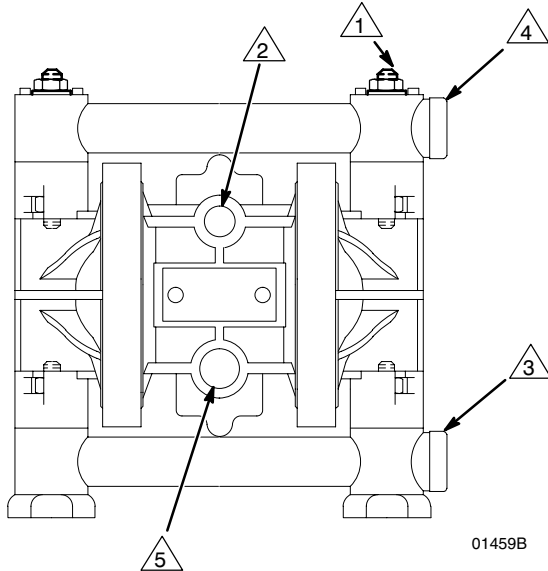
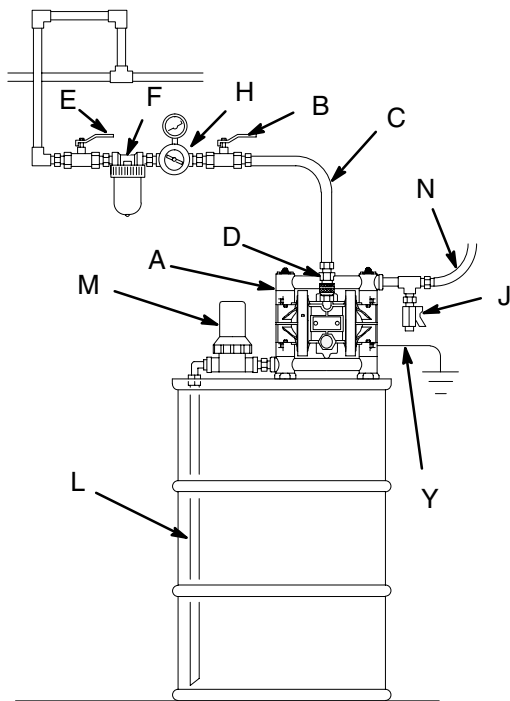
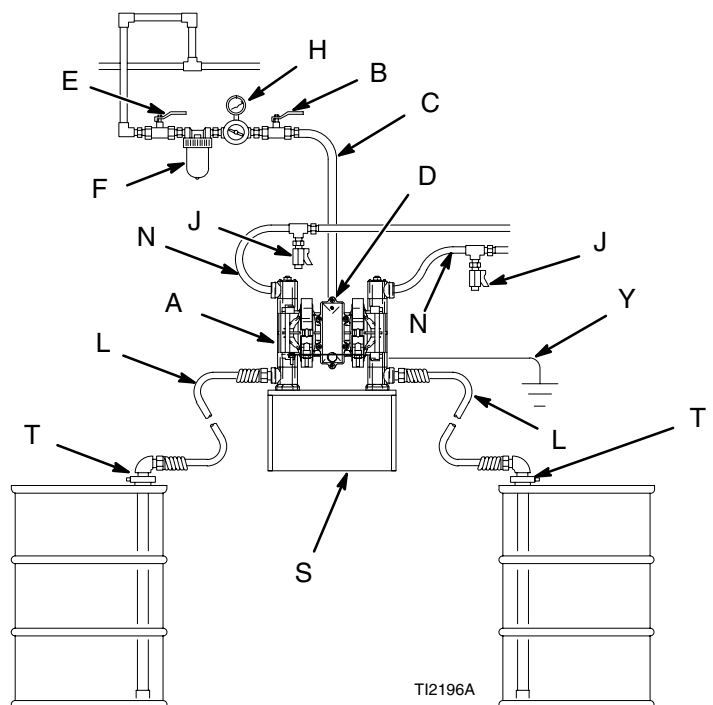

Fig. 2
Fig. 5
Fig. 7
- The pump can be used in a variety of installations, some of which are shown in Fig. 5 to Fig. 7.
When pumping conductive flammable fluids, **always** ground the entire fluid system by making sure the fluid system has an electrical path to a true earth ground (see Fig. 5 through Fig. 7). **Never** use a polypropylene pump with non-conductive flammable fluids as specified by your local fire protection code.
NOTE: When pumping conductive flammable fluids with a polypropylene pump, **always** ground the fluid system. See the **WARNING** at left. Fig. 5 through Fig. 7 show recommended methods of grounding flammable fluid containers during filling.
A bleed-type master air valve (B) is required in your system to relieve air trapped between this valve and the pump. See Fig. 5 to Fig. 7. Trapped air can cause the pump to cycle unexpectedly, which could result in serious injury, including splashing in the eyes or on the skin, injury from moving parts, or contamination from hazardous fluids.
1. Install the air line accessories as shown in Fig. 5 to Fig. 7. Mount these accessories on the wall or on a bracket. Be sure the air line supplying the accessories is grounded.
- a. The fluid pressure can be controlled in either of two ways. To control it on the air side, install an air regulator (H). To control it on the fluid side, install a fluid regulator (M) near the pump fluid outlet (see Fig. 5).
- b. Locate one bleed-type master air valve (B) close to the pump and use it to relieve trapped air. See the **WARNING** above. Locate the other master air valve (E) upstream from all air line accessories and use it to isolate them during cleaning and repair.
- c. The air line filter (F) removes harmful dirt and moisture from the compressed air supply.
2. Install an electrically conductive, flexible air hose (C) between the accessories and the 1/4 npt(f) pump air inlet (see Fig. 2). Use a minimum 1/4" (6.3 mm) ID air hose. Screw an air line quick disconnect coupler (D) onto the end of the air hose (C), and screw the mating fitting into the pump air inlet snugly. Do not connect the coupler (D) to the fitting yet.
- The pump fluid inlet is 3/8 npt(f). See Fig. 2. Screw the fluid fitting into the pump inlet snugly. Use a compatible liquid thread sealant or Teflon® tape on connections to prevent air from getting into material line.
A fluid drain valve (J) is required in your system to relieve pressure in the hose if it is plugged. See Fig. 5 to Fig. 7. The drain valve reduces the risk of serious injury, including splashing in the eyes or on the skin, or contamination from hazardous fluids when relieving pressure. Install the valve close to the pump fluid outlet.
- Use electrically conductive fluid hoses (N). The pump fluid outlet is 3/8 npt(f). See Fig. 2. Screw the fluid fitting into the pump outlet snugly.
The pump is shipped with the fluid inlet and outlet ports facing the same direction. See Fig. 2. If desired, the direction of one or both ports can be changed. Remove the manifold(s) from the pump as explained in steps 1, 2, and 4 on page 21. Reattach with the port facing the desired direction. **Do not over-torque.**